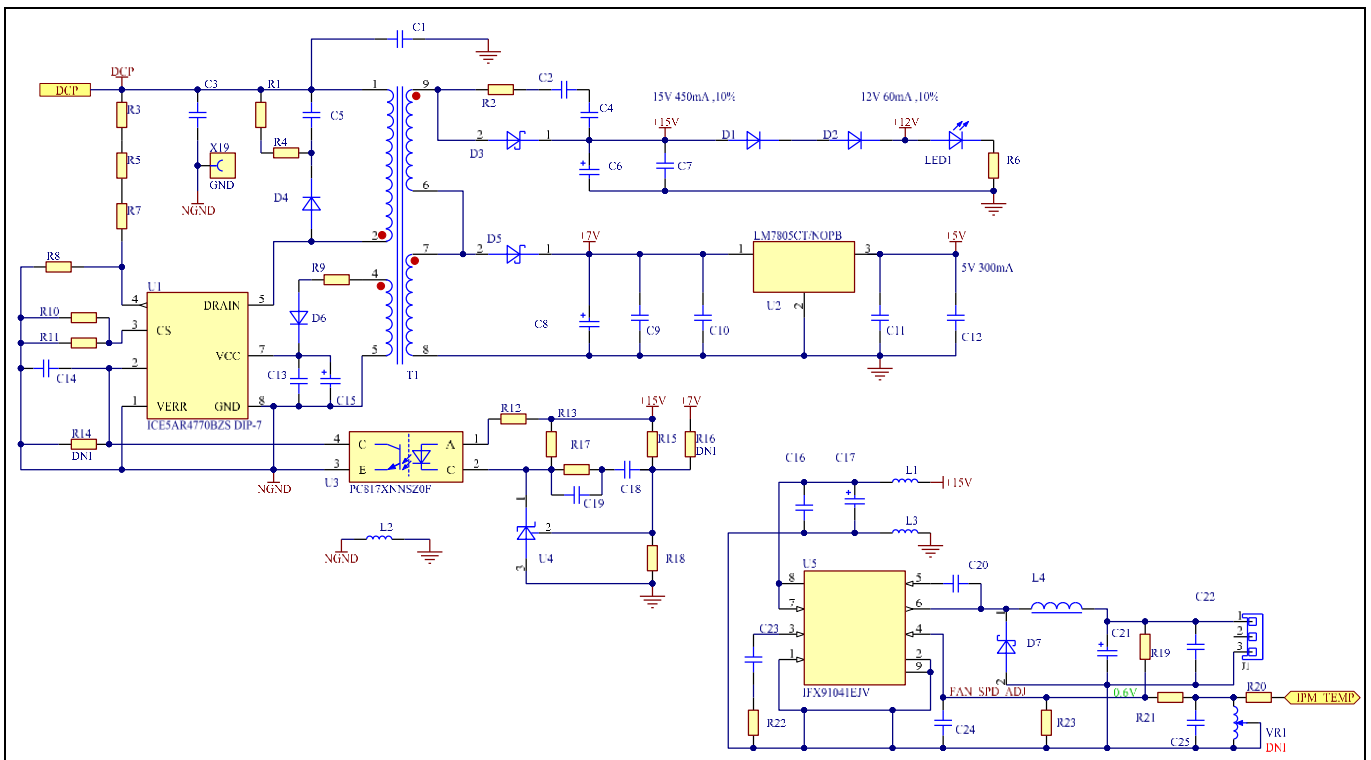
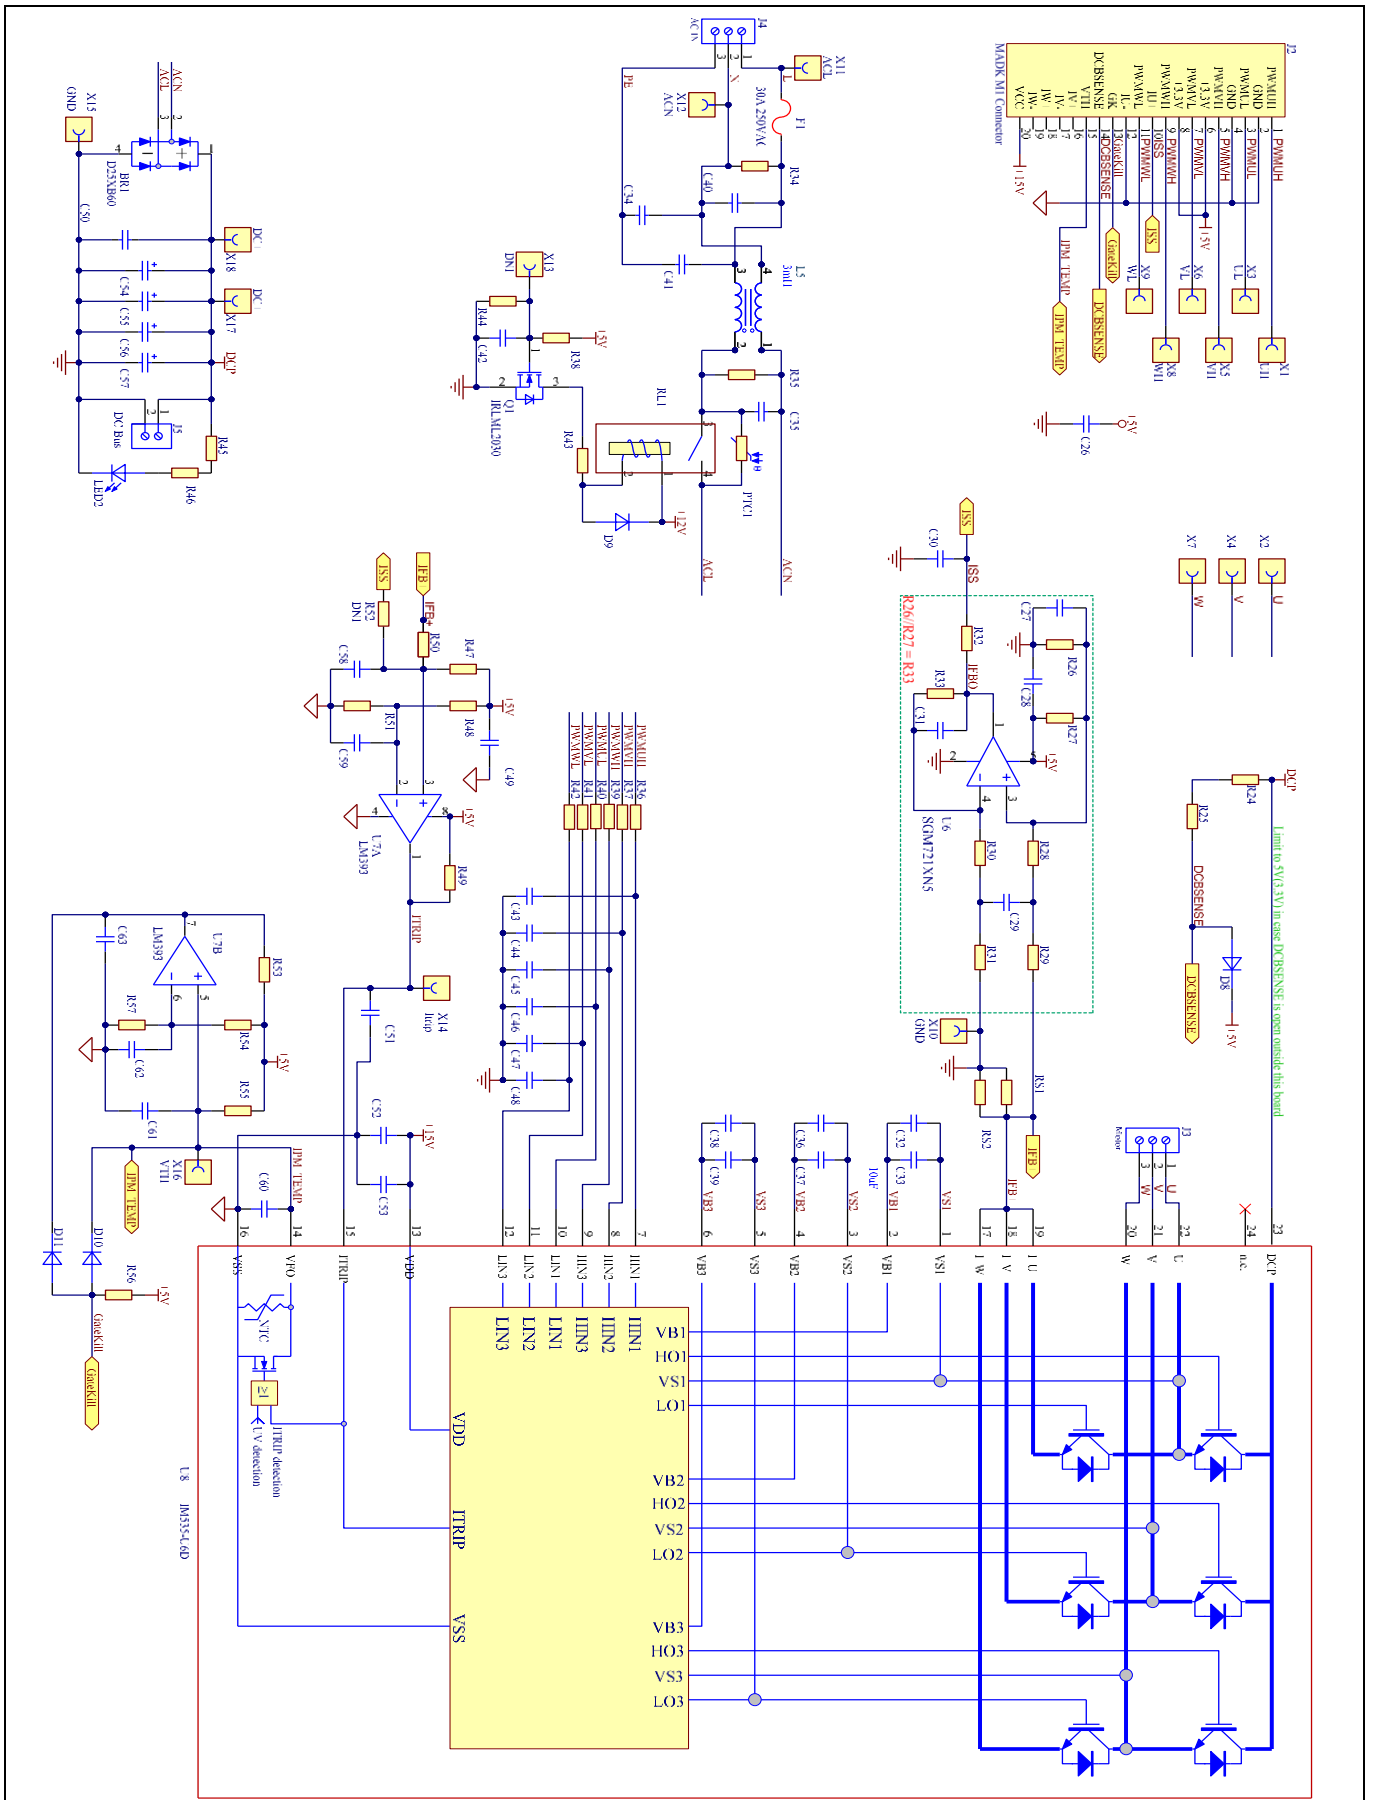

Figure 16 Aux power supply for EVAL-M1-IM535
Figure 17 Schematics for IM535 IPM and peripheral circuit
The overall schematic diagram for EVAL-M1-IM535 are provided in Figure 16 and Figure 17.
Figure 16 shows the 8 W isolated flyback power supply based on ICE5AR4770BZS, +15 V and +5 V output for IPM and controller board, the major function information are listed as below:
Figure 17 shows the inverter section of EVAL-M1-IM535, which contains IM535-U6D and its peripheral circuits, the major function information is listed below:
- U7B (LM393) for over-temperature protection; the pull-up resistor for IPM internal NTC is not a unique device, which is a combination of R55, R56, D10 and circuit in “Gatekill” and “IPM_TEMP” networks on control board, it is not recommended to change the hardware setup of U7B. Please adjust MCEWizard setup for over-temperature protection as shown in Figure 17, which is easier and safer.